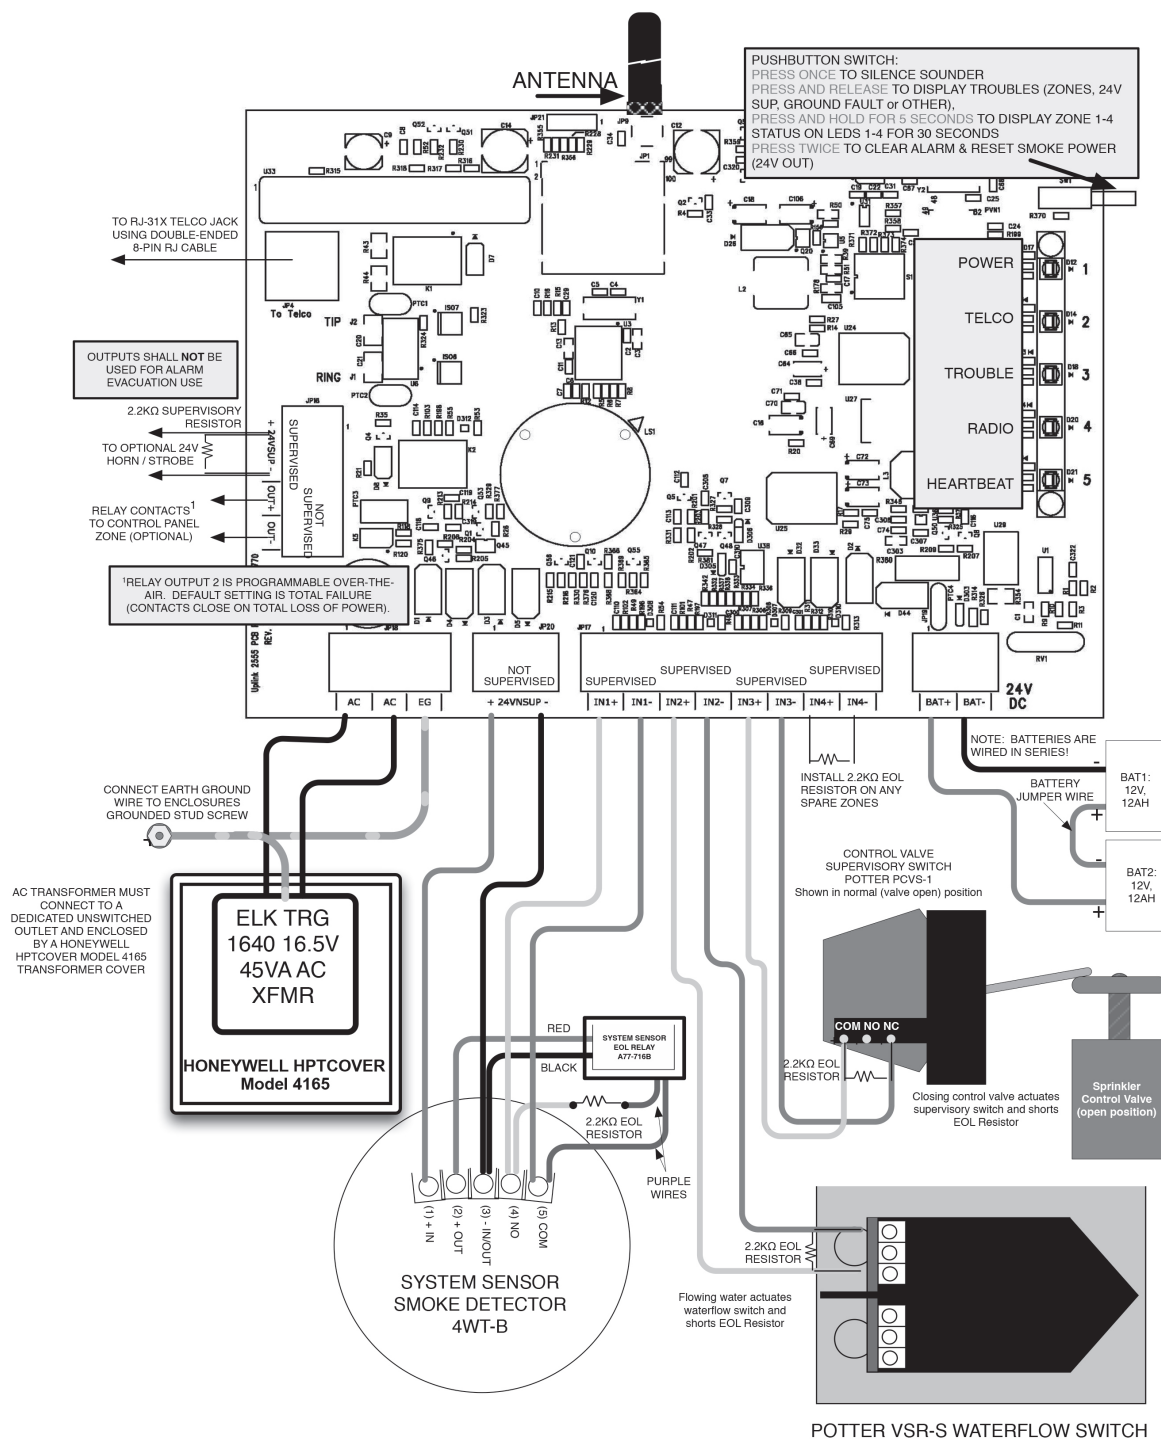

Figure 4: Example Connections Between the 4555 and the Equipment being monitored.
- C. UNSUP24 (Bottom side – Middle) is a 24VDC Smoke Power supply which is limited to 160mA. In the wiring diagram of Figure 4, this output is shown driving a smoke detector.